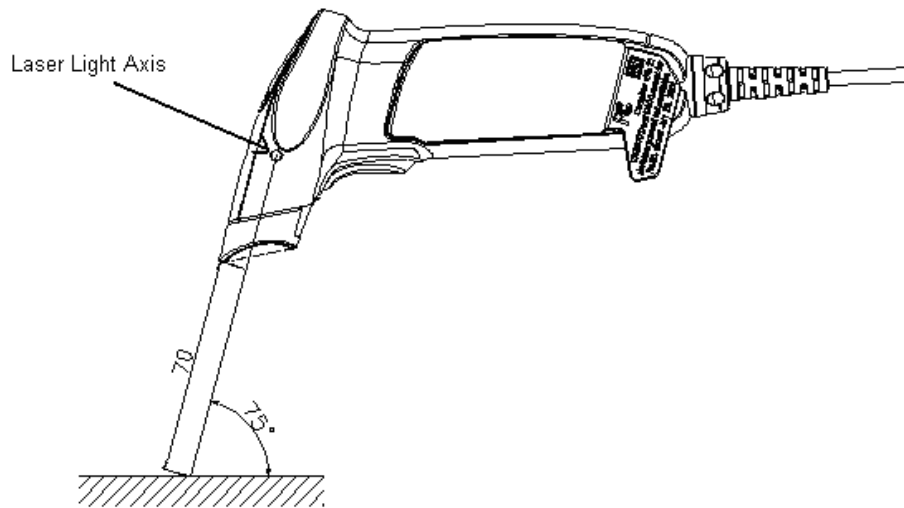

Figure 1: Ambient light immunity
- Figure 1: Ambient light immunity..... 9**